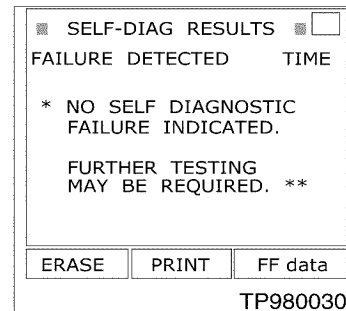

Figure 2
3. If the UE991 card is loaded, Touch: *Start, Engine, Self Diagnosis Results* (Figure 2).